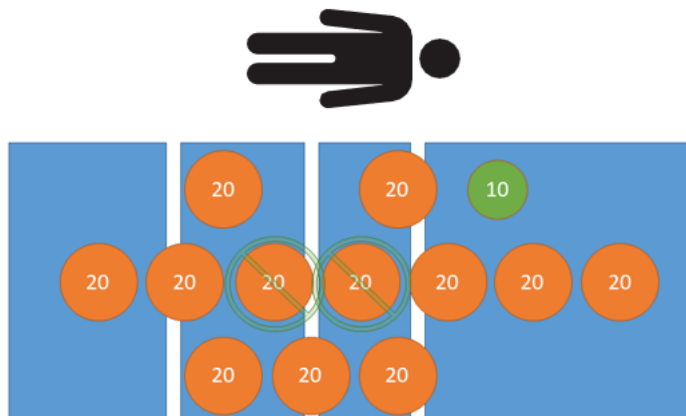

Figure 32 – Tare test - 210 kg net
7. Using calibrated weights, place 210 kg on the product (Figure 32).